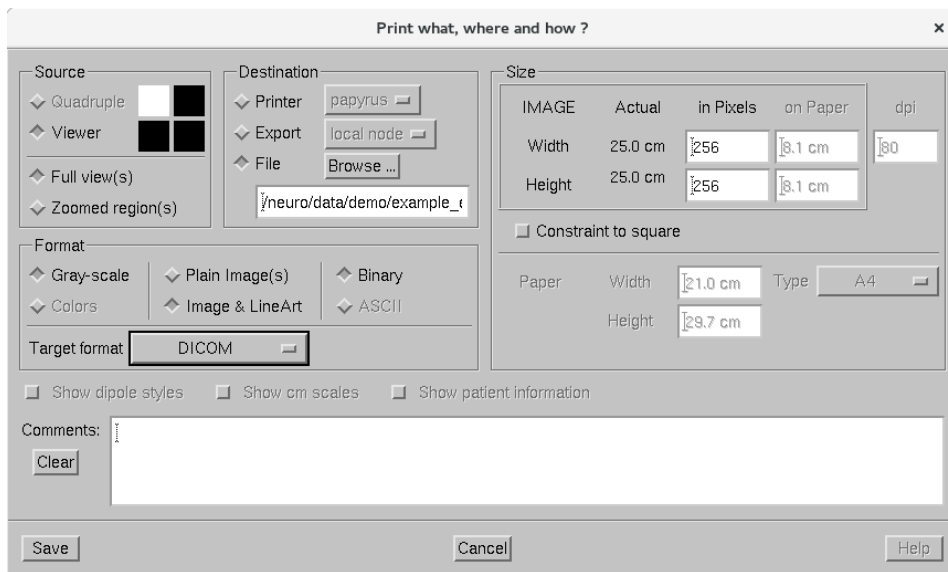

Figure 42. *MriLab* printing dialog, DICOM export.
- Select **File -> Print**. A dialog pops up (Figure 42).